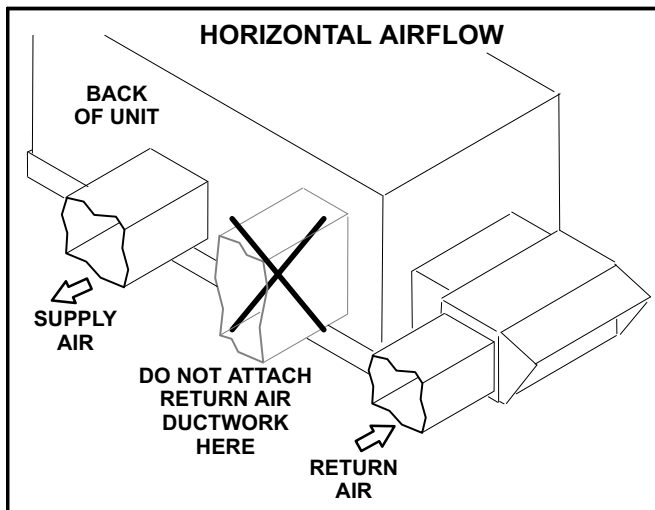

FIGURE 11
- 3- Make sure the horizontal return air cover on the back side of the unit remains in place. The opening is used when an economizer is not installed. See figure 11.